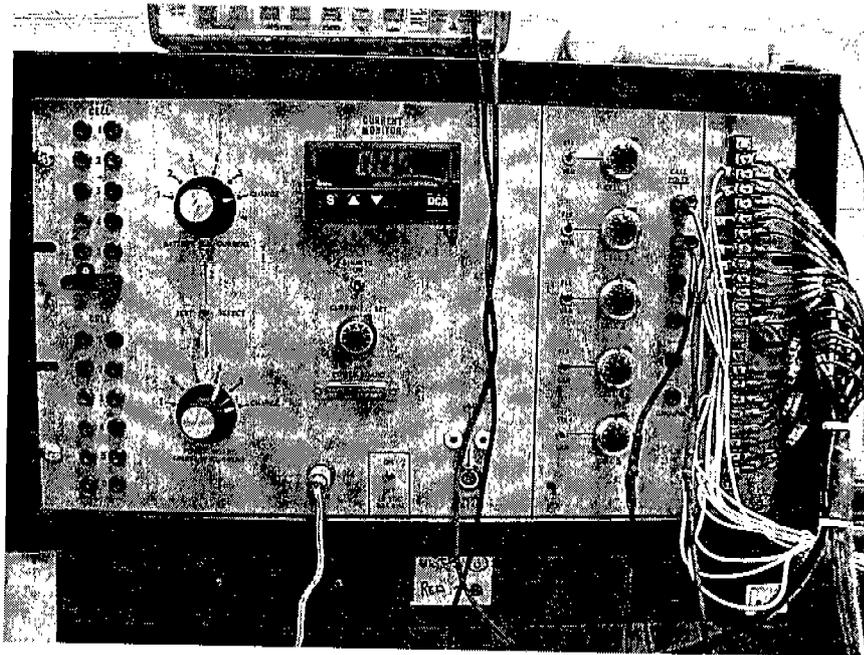

Figure 1-5 Battery Simulator Panel Layout
- 1.3.3 Figure 1-5 shows the test stand battery simulator panel layout
6.1.2.2 Battery Simulator Panel Switches (Figure 1-5)